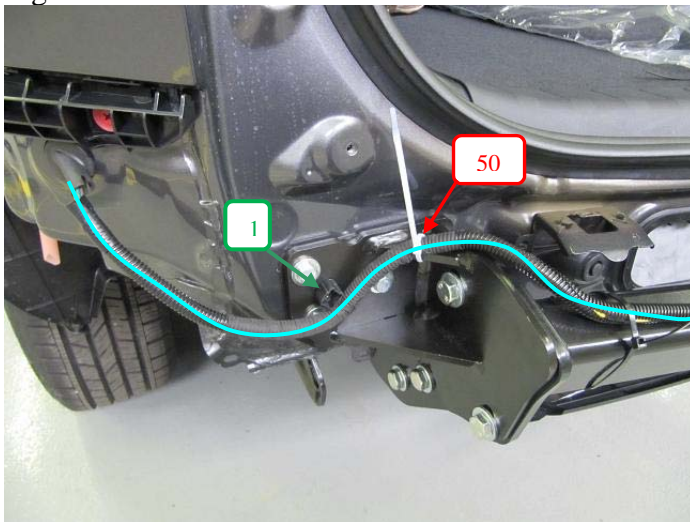

Figure 4-5
- b) Follow hitch bracket and secure with cable tie and M6 stud mount cable tie as shown (Figure 4-5).